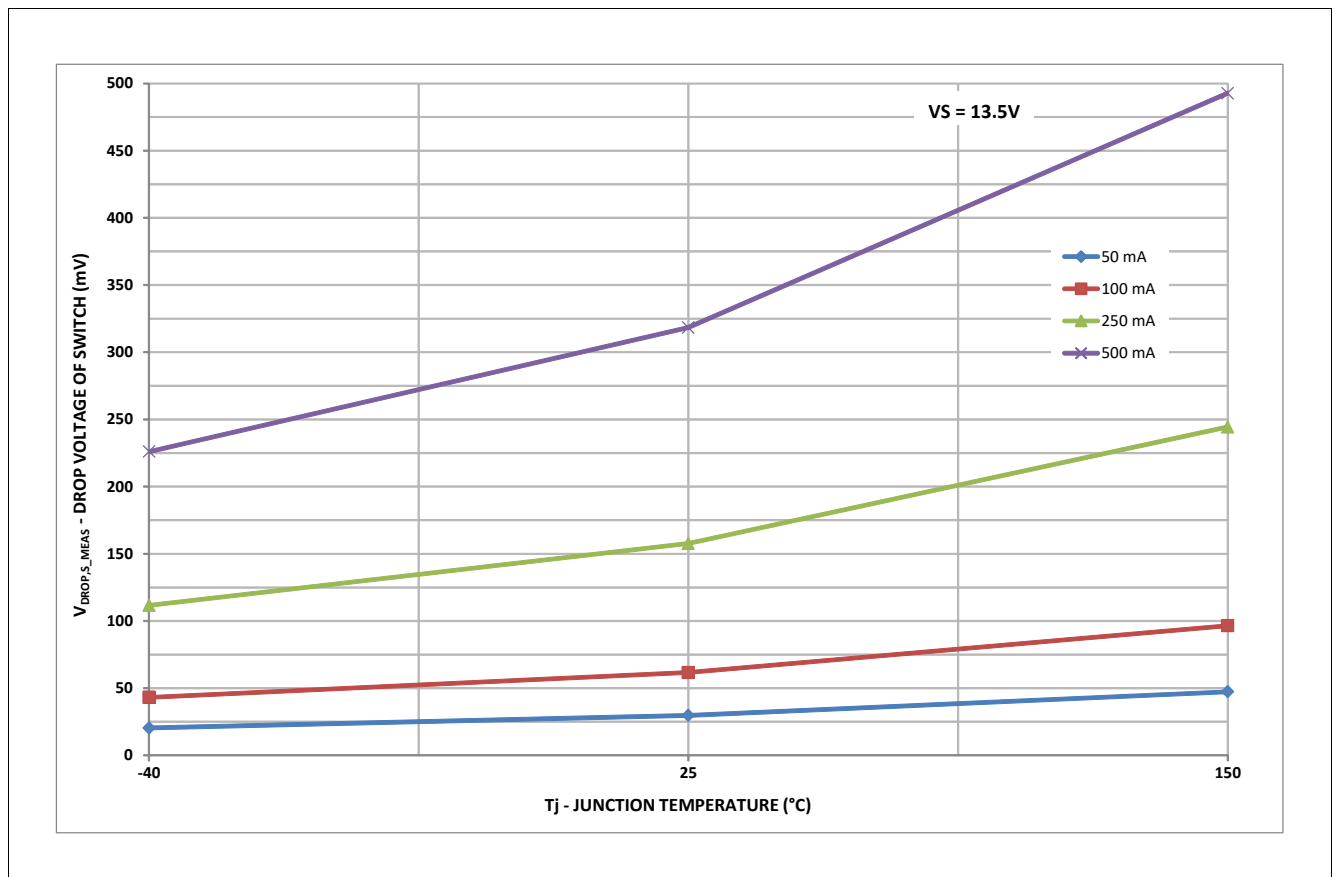

Figure 13 Typical Drop Voltage Characteristics of switch S_MEAS (between $WK/VSENSE$ & $FO/GPIO$)
*Note: There is a diode in series to the switch S_MEAS (not shown in the **Figure 46**), which influences the temperature behavior of the switch. See also **Figure 13**.*